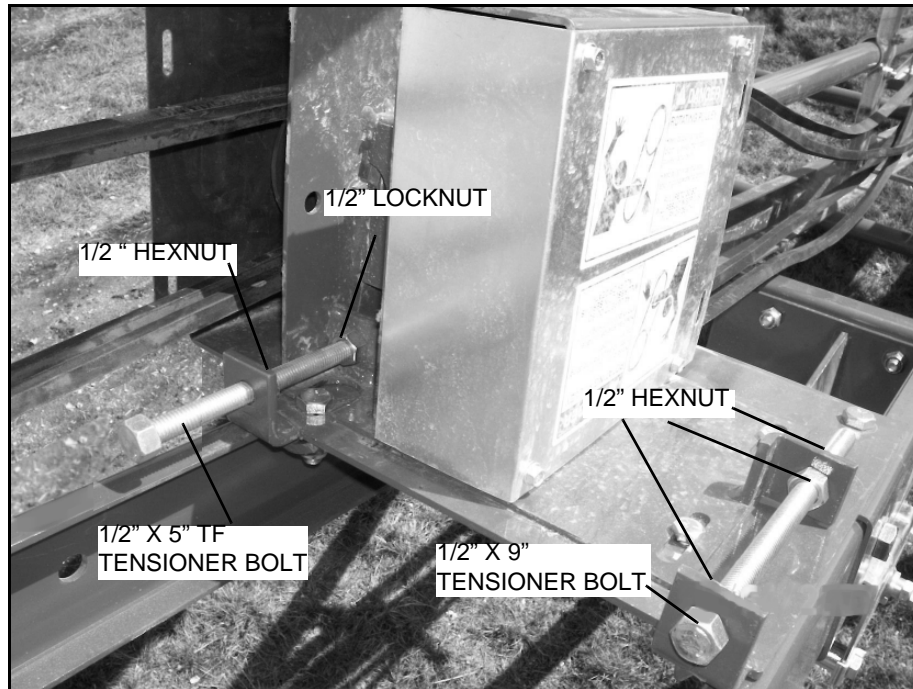

Figure 3.20 Tensioner Bolt
3. Loosely install tensioner bolts through tabs in jackshaft plate and jackshaft assembly (Figure 3.20) before pulleys are installed.